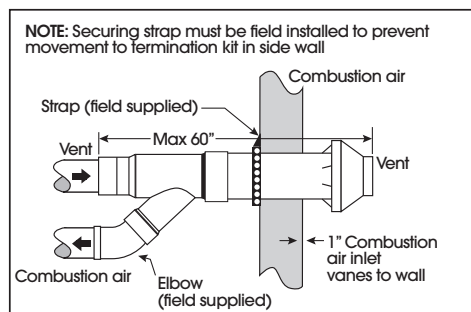

Figure 7-Sidewall Termination Details
9. Secure to structure (Figure 7) using metal strapping or equivalent support material (user supplied).
10. Cement furnace combustion air and vent pipes to Extended Concentric Vent. Refer to Figure 7 for proper pipe attachment.